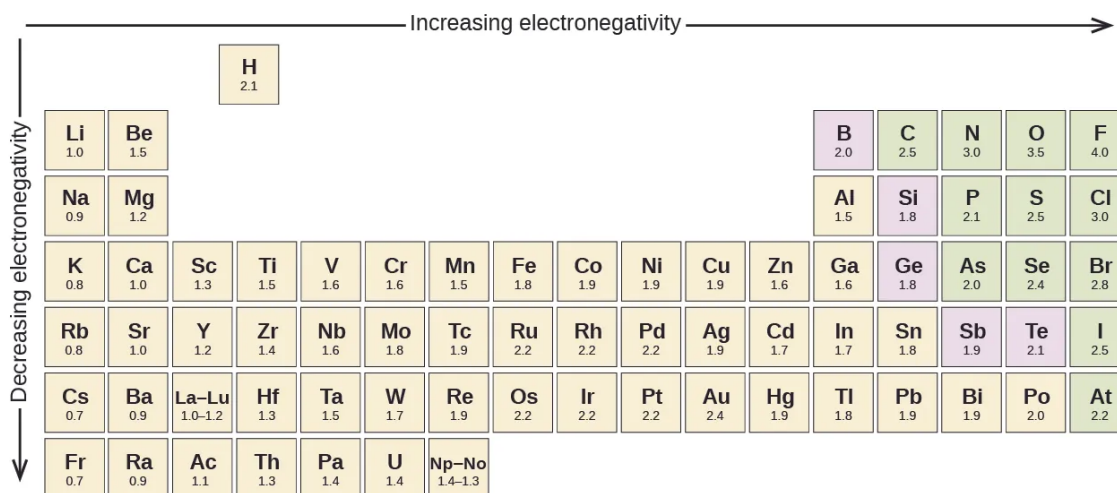
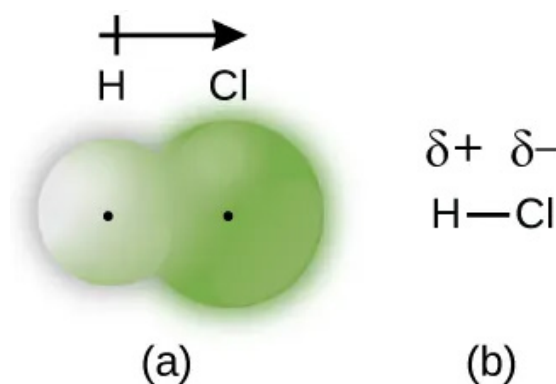

Figure 5. Periodic table electronegativity distribution (Flowers et al., 2019a).
Figure 7. Electronegativity distribution of H–Cl (Flowers et al., 2019c).
“Very good. Electronegativity is very important when trying to distinguish the type of bond between two atoms.” Dr Johnson pulled out a periodic table and began drawing two arrows (Figure 5).
“Yes, bonds with different electronegativities create a shift in electron density surrounding the atoms; the electrons are more attracted to one of the atoms in the bond. Remember that we said that this gives the less electronegative atom a partial positive charge (δ^+) and the more electronegative atoms a partial negative charge (δ^-). Now, the greater the difference in electronegativity between two atoms, the greater the dipole moment and thus the stronger a bond is (Figure 7).
6. Using the electronegativity values in Figure 5 (p. 5 above), arrange the following covalent bonds in order of increasing polarity. Then designate the dipole moment using arrows similar to Figure 7: